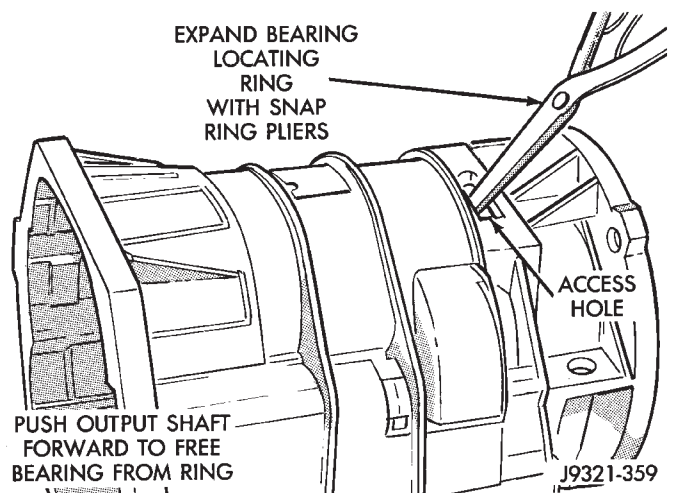

Fig. 61 Seating Locating Ring In Rear Bearing
- (9) Expand front bearing locating ring with snap ring pliers (Fig. 61). Then slide case downward until locating ring locks in bearing groove and release snap ring.